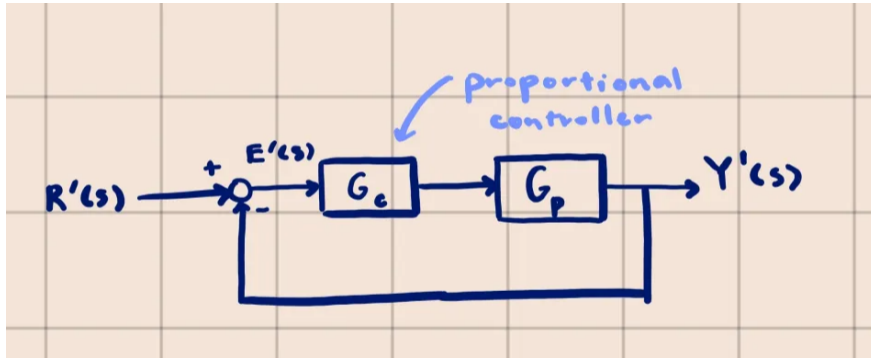

Figure 3: Simulink model of the closed-loop feedback control with a proportional controller
- (1.2) The closed-loop feedback control with a proportional controller is shown below in Figure 3. The transfer function $G_c(s)$ can also be represented by a proportional gain K_c .